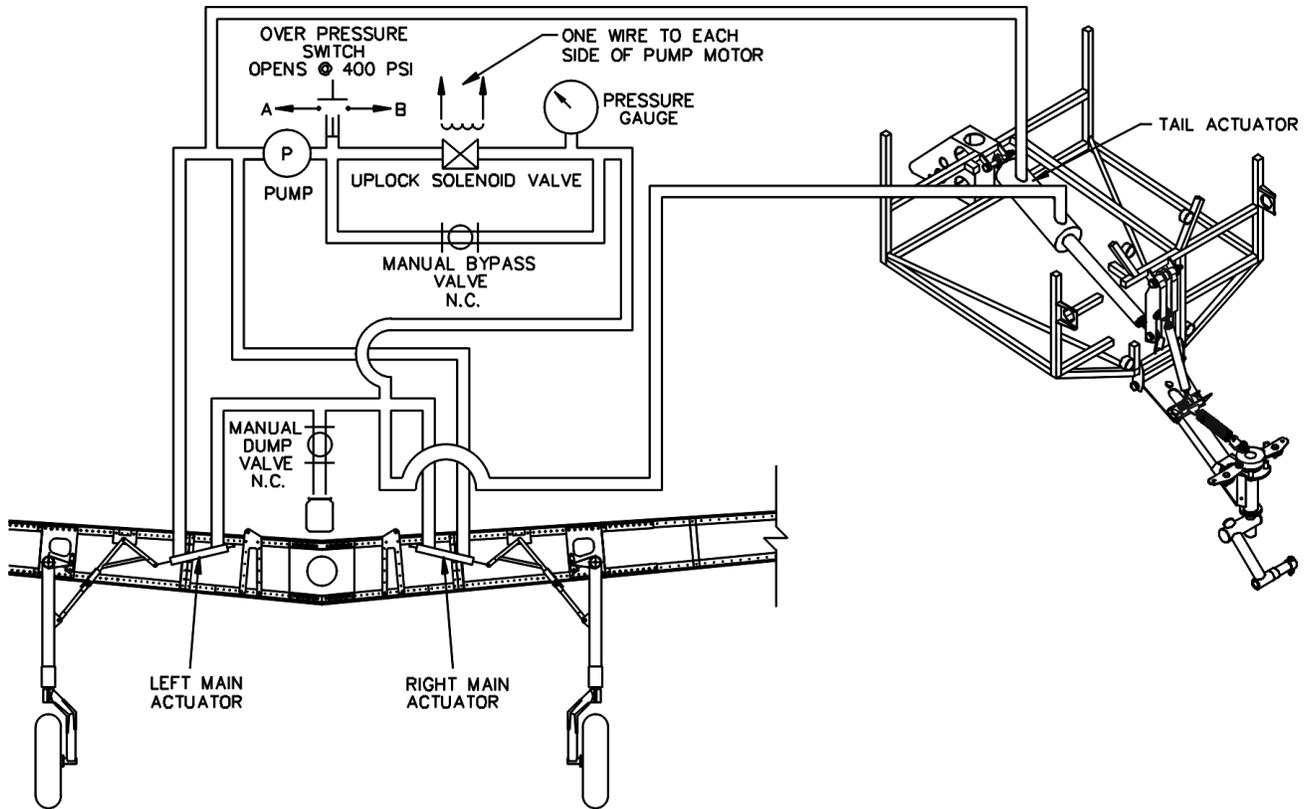

Figure 4
**Note A** - Some of the early T-51, below serial number 50, may use the more complicated system. Refer to Figure 4.
The early T-51 uses a hydraulic up-lock to lock the gear in the up position. Refer to Figure 4. This is accomplished by using an electrically operated valve in the circuit. It is designed so that whenever power is applied to the hydraulic pump motor it is also applied to the valve. (When power is applied to the valve, the valve is held open allowing fluid to flow.) When power is removed from the pump motor, and thus the valve, the valve closes. If for any reason the valve fails to open, either electrical or mechanical, the gear will be locked in whatever position it is in. The system is therefore designed with a manually operated valve that can bypass the electrically operated valve in the event that the electrically operated valve fails. This valve is the yellow manual valve located on the center pedestal and is labeled, "UP LOCK BYPASS". If there is ever any concern that the electrically operated valve has failed, the manual bypass valve should be opened. The only negative result of this will be the gear will not be locked in the up position. Otherwise the system will operate perfectly. In fact the gear will actually up and down slightly faster. This is because you are removing the restriction of the electrically operated valve.